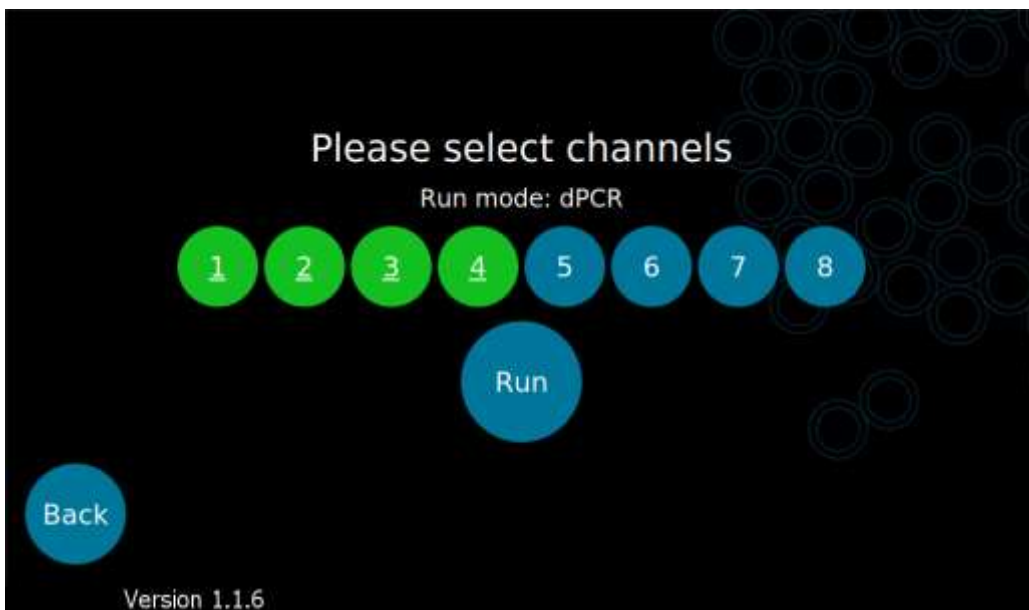

Fig. 3.7. Selecting the lanes to be used. Selected channels will be indicated by green buttons (here: 1 to 4). Blue buttons indicate channels not yet selected.
16. The lanes to be processed are selected by pressing the corresponding numbers 1–8 on the screen. When selected, the buttons turn green (green = selected and blue = not selected; Fig. 3.7).